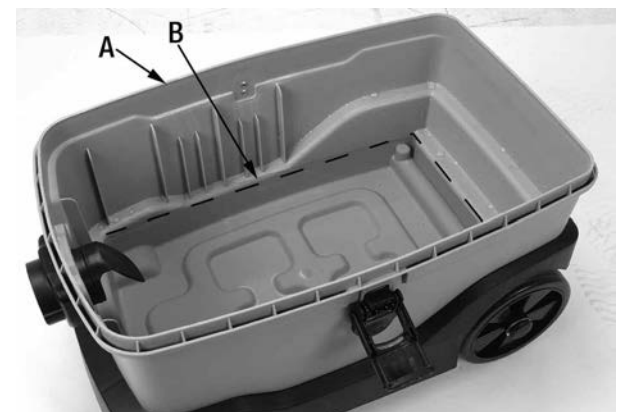

FIGURE 7
4. Fill the tank (A) Fig.7 with water, do not fill it past the maximum "Water level" marking (B) as shown.